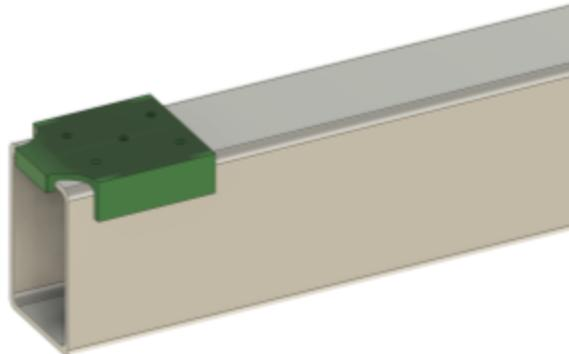

Figure 1.1
1. Position Assembly Tool #1 on the top face of one Y-Axis frame beam with the number on the printed part facing down and all tabs securely holding position as shown in Figure 1.1.